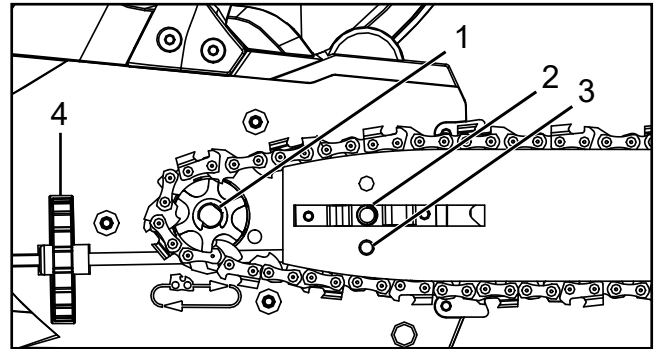
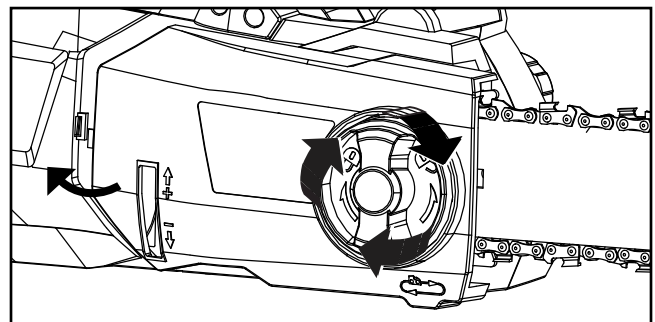

Figure 10 - Install chain
Figure 11 - Reinstall cover
4. Place the saw chain around the sprocket while lining up the slot in the guide bar with the internal bolt at the base of the saw and the chain tensioning pin in the guide bar's pin hole (Figure 10). The chain tensioning pin may need adjustment to properly align with the hole in the guide bar. Use the chain tensioning wheel to adjust its location until it fits in the guide bar.
5. Turn the chain tensioning wheel to preliminarily tighten the guide bar enough that the chain stays in place (Figure 10). While holding the bar still, reinstall the cover. Make sure the tab properly line up with the slot on the body of the saw (Figure 11). Reinstall the side cover lock and turn it clockwise until it engages. Adjust the chain tension.